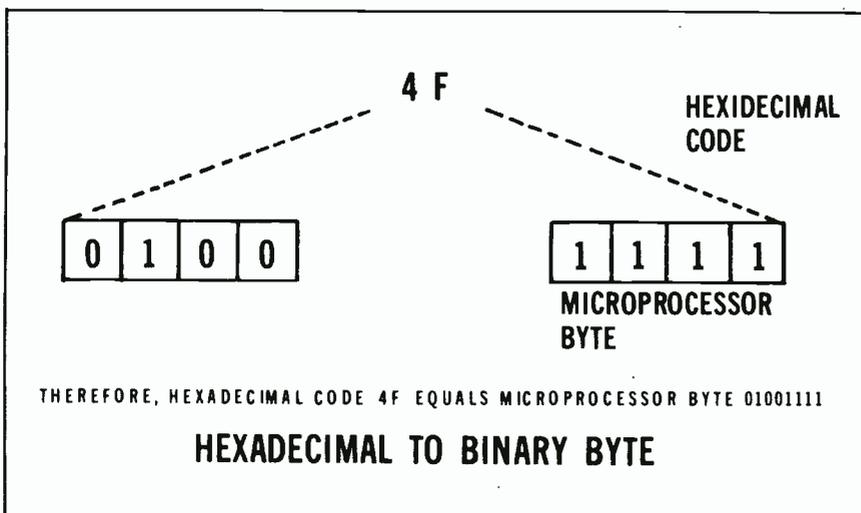

Figure 4 This is the method of converting hexadecimal 4F to machine code 01001111.
Figure 4 (A) This schematic is typical of horizontal-output tube grid circuits. Dotted lines show how a varistor HV regulator is connected. **(B)** Top trace is the 200VPP oscillator signal at the output grid, with zero line added by the scope. The plate current waveform is shown by the lower dual trace. **(C)** These waveforms are the same as those in B, but external negative voltage from a varistor has increased the dc grid voltage from -50V to -70V. The instantaneous grid voltage never reaches zero; therefore, the plate current is lower (bottom trace). Both B and C were made with the same scope adjustments, so comparisons may be made. **(D)** To find the grid bias where plate current begins, the sawtooth was made taller and then the current lower trace was moved up until the sawtooth slope crossed the current line at the corner where plate current began. The vertical position of the current baseline shows the cutoff point was -48V. Careful scope measurements showed retrace occupied 17%, damper current flowed for 28% and output tube current flowed for 55% of the whole cycle. But, for the trace section of the cycle alone, damper current flowed for 34% and tube current flowed for 66%. This is not the 50/50 ratio usually stated.
Figure 4 shows how the hexadecimal code 4F is converted to an 8-bit byte for instructing the microprocessor.